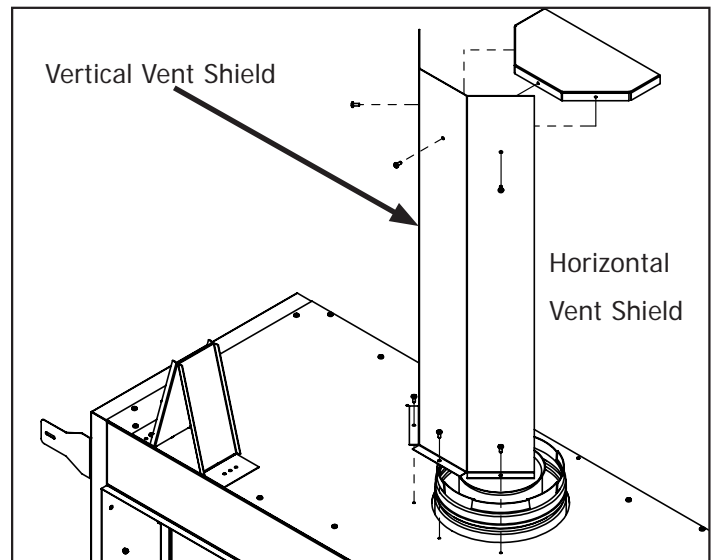

Figure 38 Vent Shielding Install
**IMPORTANT:** All installations must include the vertical vent shield. The horizontal vent shield is only installed if the fireplace is horizontally terminated with the minimum vertical rise of 24". If more than 24" of vertical rise is used in the vent configuration no horizontal shield is needed. See Figure 38 for shield install. Screws are pre-installed in cabinet and horizontal vent shield. Use a T-20 screwdriver or drill driver to remove screws then install shields.
If installing with a mantel to protect the TV please see Figure 38 for clearances, it is highly recommended to use at least a 8" mantel. The **minimum** distance from the base of the unit to the bottom of the TV would be 45.75".